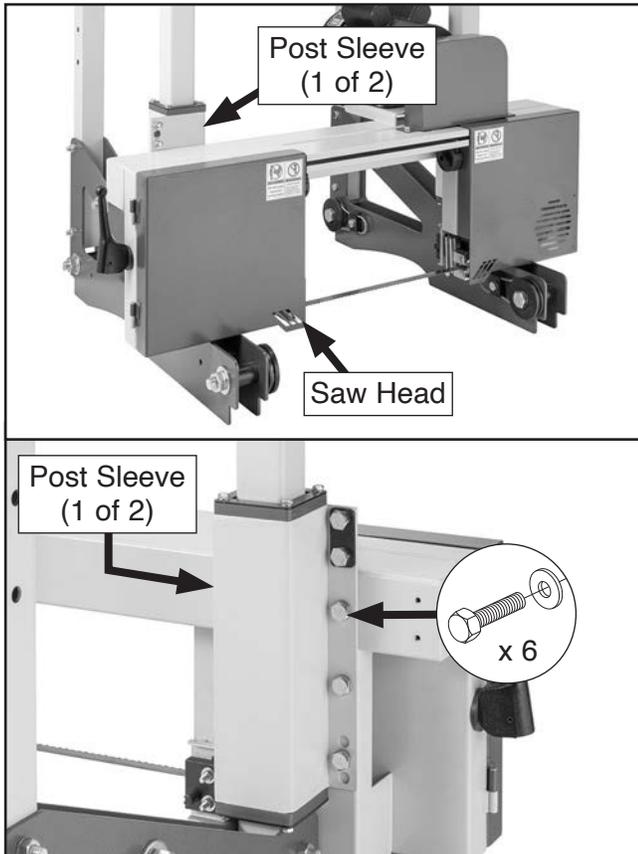

Figure 35. Saw head attached to post sleeves.
34. Have an assistant hold saw head in place while you attach it to post sleeves with (6) M10-1.5 x 16 hex bolts and 3/8" flat washers (see **Figure 35**).